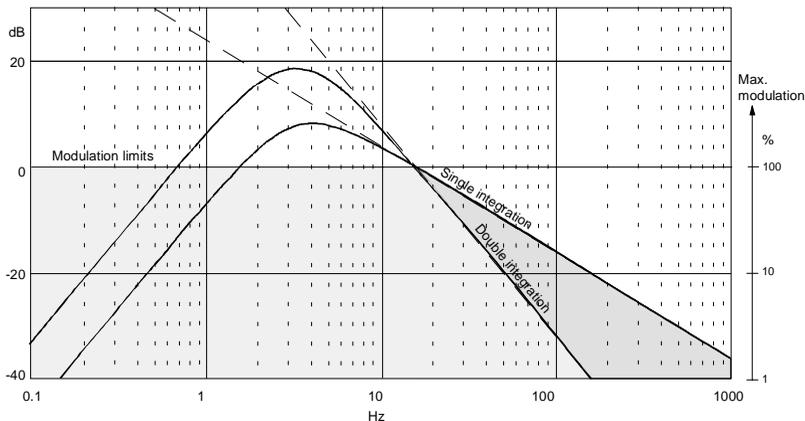

Fig. 8: Frequency response of the integrators
**Dynamic Range Over Frequency** At higher frequencies the output voltage will have only small amplitudes after integration. The dynamic range and the signal-to-noise ratio therefore become lower in the kHz-range (Fig. 8).
**Overload at Integrator Input** In some cases signal components with high frequency and magnitude may overload the amplifier although no overload can be detected at the M68 output. The overload LED remains dark. This can occur due to the attenuation of higher frequencies by the integrator (compare Fig. 8). To avoid possible overload, make sure to check the signal level in the switch position „ACC“ (integrator off) before using the integrator. If an overload condition should be indicated, reduce high frequency components by an appropriate low pass frequency.